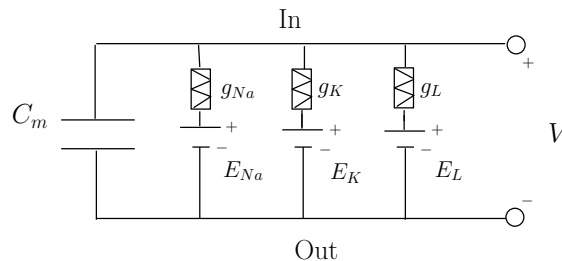

Figure 9.1 Electrical circuit of the HH-model
9.5 The Hodgkin and Huxley model is derived upon the idea of seeing the membrane of the neuron as an electrical circuit, see Fig. 9.1. We will now simulate the behavior of its different electrical components.
- c. The currents through the conductances for Na and K depend in a non-linear fashion on the voltage  $V$ . However, if we denote the currents  $i_{Na}$ ,  $i_K$  and  $i_L$  we can now determine the current that is fed to the capacitance by Kirchoff's law, i.e.,  $i(t) = i_{Na} + i_K + i_L$ . In the electrical circuit in Fig. 9.1 we have excluded the external current. However it can be included as a current source in parallel with the capacitance. Write down the dynamics for the full circuit.